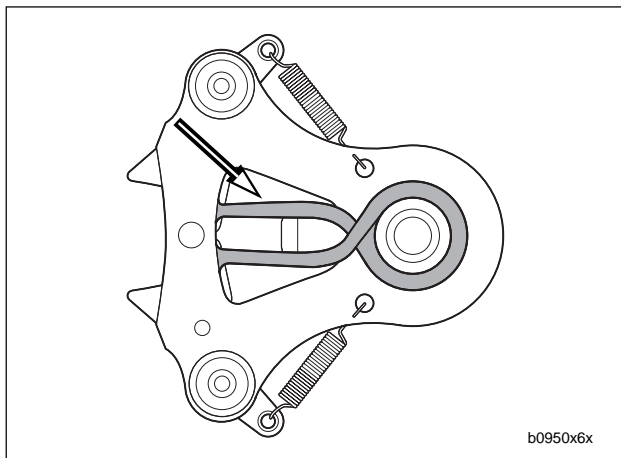

Figure 6-88. Shifter Shaft Return Spring (Correctly Installed)
1. See Figure 6-88. Correctly install shifter return spring onto the reverse side of the shifter shaft assembly before placing shaft in left crankcase half.